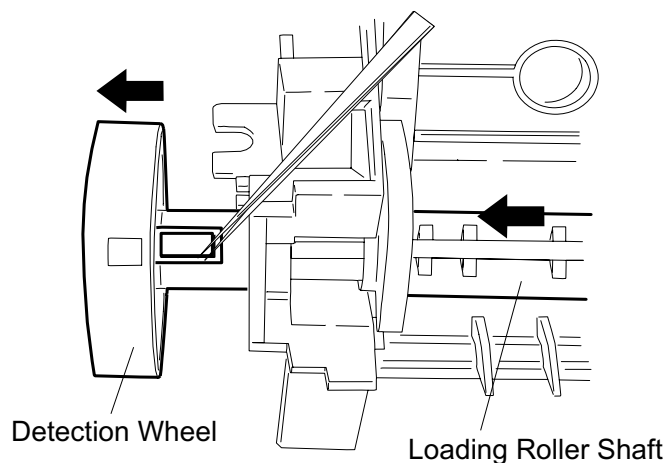

Figure 3-24. Detection Wheel Removal
3. Shift the LD roller shaft about 1 cm (half an inch) left, and using tweezers, and release the tab attaching the detection wheel to the left edge of the LD roller shaft. Then remove the detection wheel. (See Figure 3-24.)